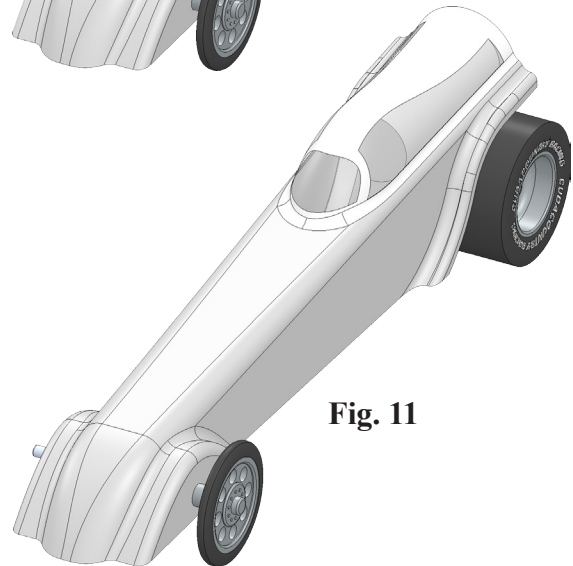

Fig. 11
Step 21. Browse and place **REAR WHEEL ASSEMBLY** on Real Axle, **Fig. 11**. Release when cursor changes to indicate a Concentric mate .